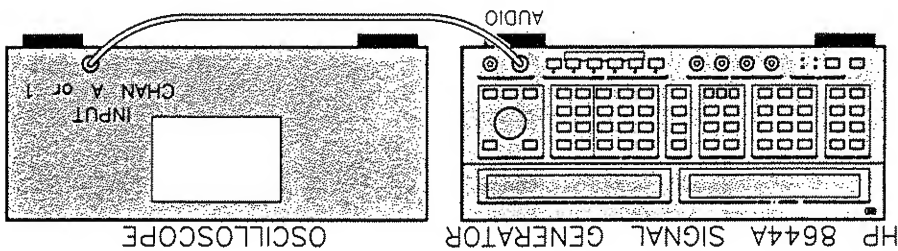

Figure F-1. Equipment Setup for the Quick Demonstration
1. Connect the HP 8644A to the oscilloscope as shown in figure F-1. Turn on the equipment and make the following adjustments: